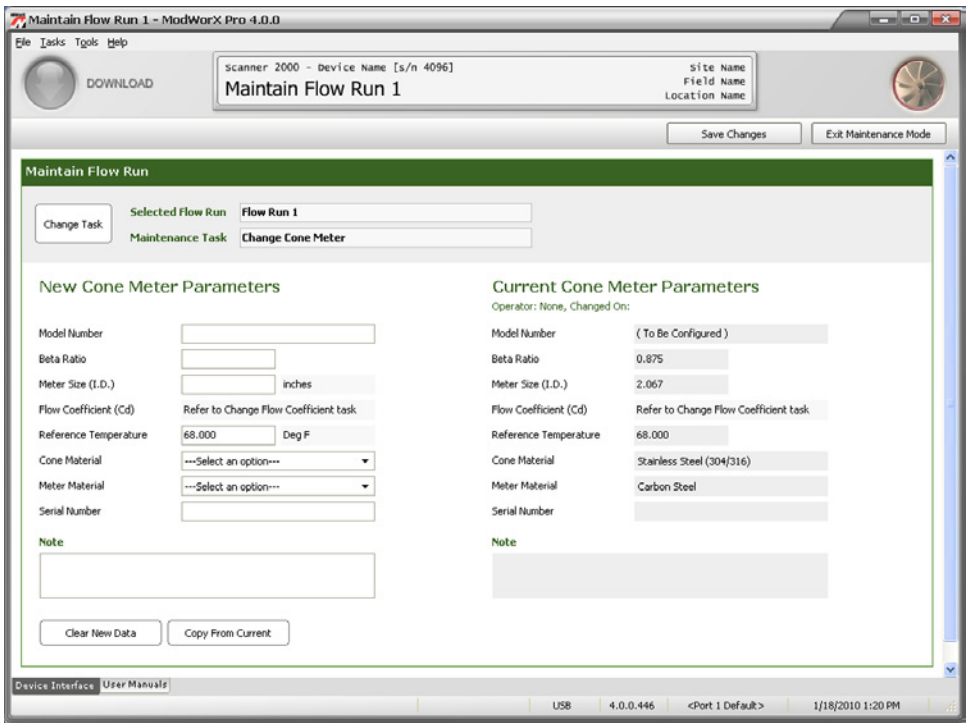

Figure 10.3
- 4. Click **OK** to save the settings. The Maintain Flow Run screen will appear (Figure 10.3).